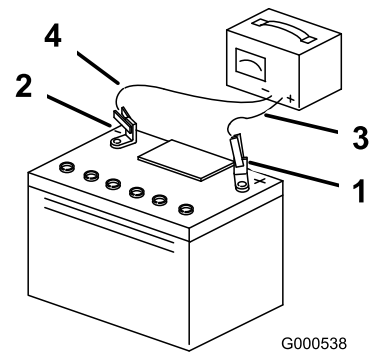

Figure 34
- When the battery is fully charged, unplug the charger from the electrical outlet, then disconnect the charger leads from the battery posts (Figure 34).